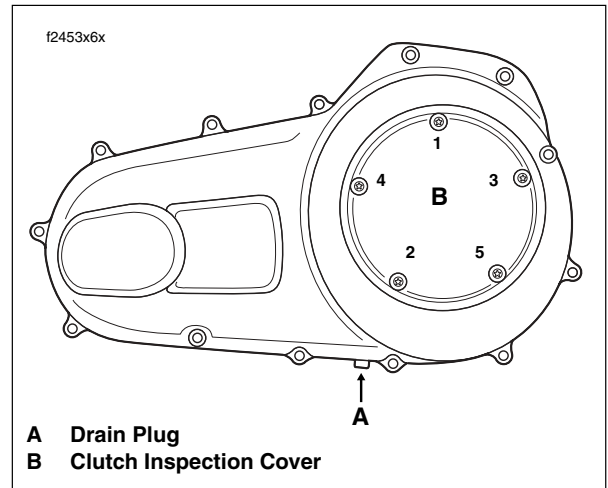

Figure 1-6. Primary Chaincase Cover
2. Remove magnetic drain plug at bottom of primary chaincase. Drain lubricant into suitable container. See Figure 1-6.
9. Using a T27 TORX drive head, install five screws (with captive washers) to secure clutch inspection cover to the primary chaincase cover. Alternately tighten screws to **84-108 in-lbs** (10-12 Nm) in the pattern shown in Figure 1-6.
11. Using a T27 TORX drive head, install five screws (with captive washers) to secure clutch inspection cover to the primary chaincase cover. Alternately tighten screws to 84-108 **in-lbs** (10-12 Nm) in the pattern shown in Figure 1-6.